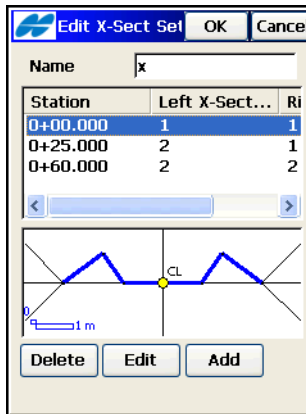

Figure 7-27. Cross Section
4. To add a station, tap the **Add** button in the *Add X-Sect Set* screen (Figure 7-27). Add as many templates as necessary to define the road. If two or more cross sections are defined in one set, the intermediate cross sections are calculated using interpolation.